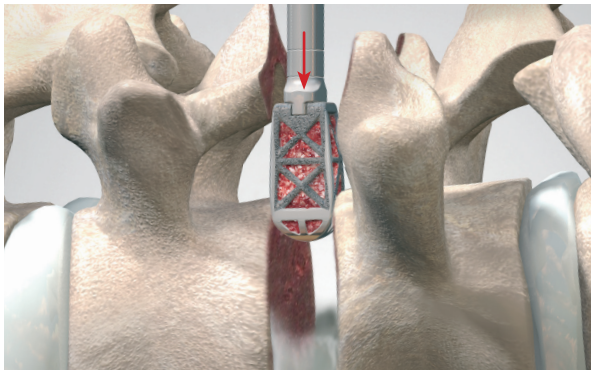

Figure 10
- ▲ Introduce the implant into the prepared intervertebral space and tap it into place with a mallet (Fig. 10 or 11). Confirm the proper placement of the implant using fluoroscopy.